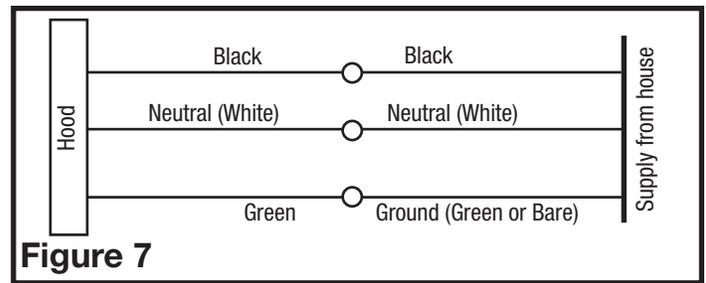

Figure 7
1. Connect the 1 loose Black wire from the range hood to the Black wire from the supply, and the 1 loose White wire from the range hood to the White wire of the supply. Connect the ground wire (green or bare) from the supply to the green ground screw of the hood. Use approved methods for all connections (Figure 7).